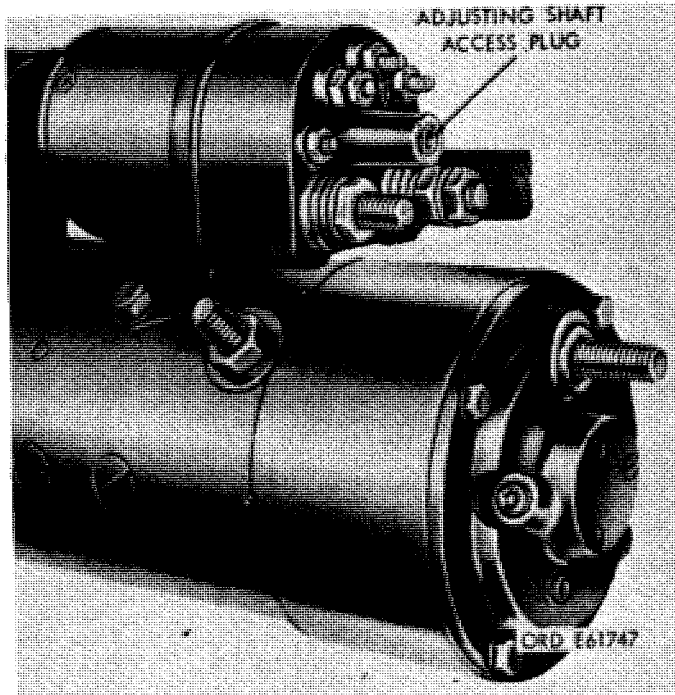

Figure 3-2. Removing or installing relay adjusting shaft access plug.
*b.* Remove adjusting shaft access plug (fig. 3-2).